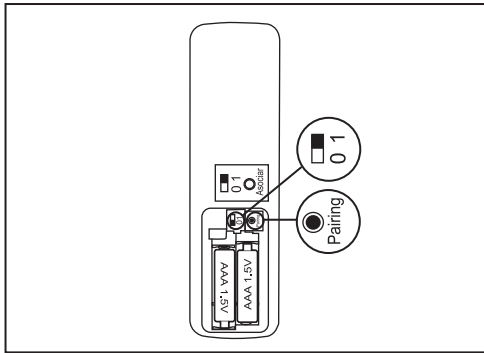

Figure 16
2. Slide the dip switch in the battery compartment to the "0" position. (Fig. 16)
4. Within 60 seconds of turning AC power ON, press and release the "Pairing" button located in the remote's battery compartment (Fig. 16), and your fan will restore to the original setting and dismiss the other remotes.